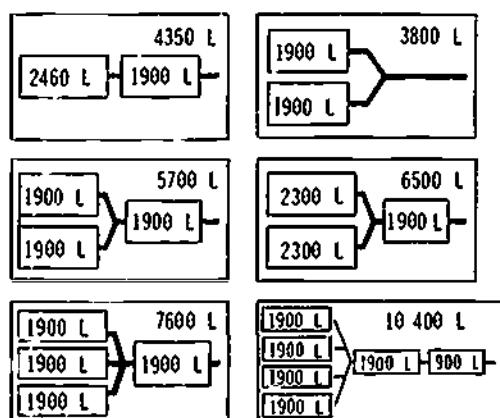

Figure 24-6. Interconnecting Small Standard-Sized Tanks
d) Pre-cast concrete septic tanks are extensively used in some areas. They are frequently made in the single-compartment type, but where a siphon chamber is required, such units are also available. Their reinforced construction and closely compacted concrete make them more resistant to deterioration than some poured-in-place tanks. They should never be placed on filled ground, and must of course meet provincial requirements. They are available in sizes at least from .9 to 4 m³. Where a grease trap is necessary, such units are available. It is quite practical and economical to use several of the small standard-size tanks, connected as shown in Figure 24-6, to obtain the necessary volume. Advantages claimed for this arrangement are increased efficiency in separation of solids and a